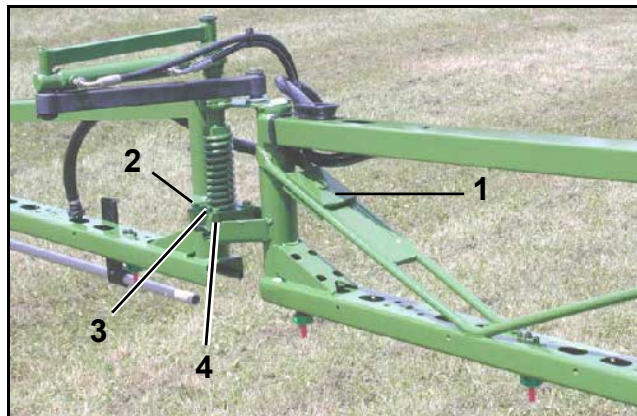

Fig. 74
If this is not the case, fold out the boom, **unlock** the swing compensation and align the boom via the counter weights (Fig. 74/1). Fix the counterweights where appropriate to the sprayer boom.
- Slacken the bolts (Fig. 74/2) on the bracket (Fig. 74/3). The alignment is achieved by adjusting the plastic claw (Fig. 74/2) via the slotted holes of the bracket.
- Retighten the bolts (Fig. 74/2).